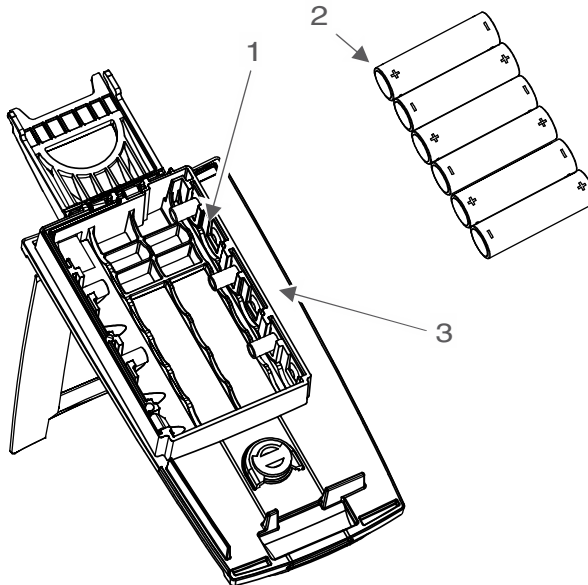

Figure 3. Multimeter Battery Location
4. Remove the six batteries (Figure 3., Item 2) from the multimeter rear cover (Figure 3., Item 1).